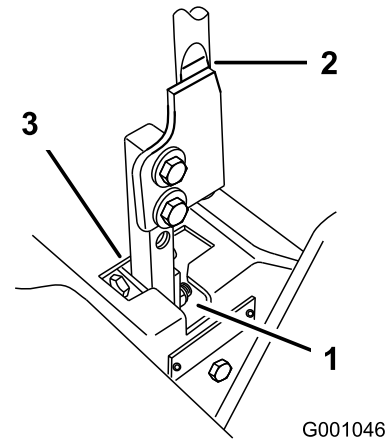

Figure 73
5. Move the lever to the NEUTRAL position but not locked (Figure 73).
6. Pull the lever back until the clevis pin (on arm below pivot shaft) contacts the end of the slot (just beginning to put pressure on the spring) (Figure 73).
7. Check where the control lever is relative to notch in console (Figure 73). It should be centered allowing lever to pivot outward to the NEUTRAL-LOCK position.